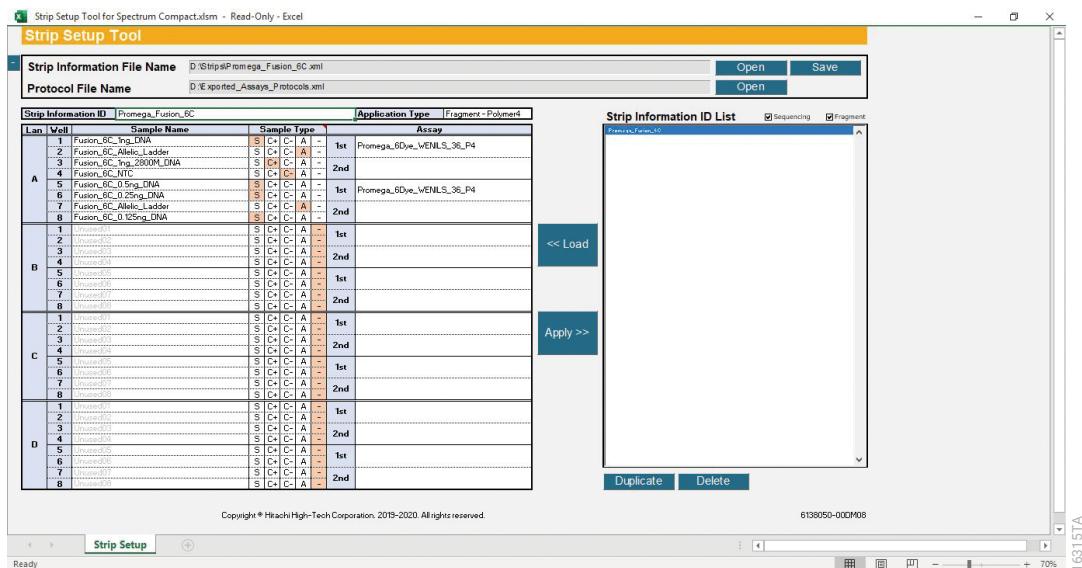

Figure 214. Strip Setup Tool for Spectrum Compact with new strip in Strip Information File Name.
- The name and location of the new strip will now appear in the Strip Information File Name cell (Figure 214).